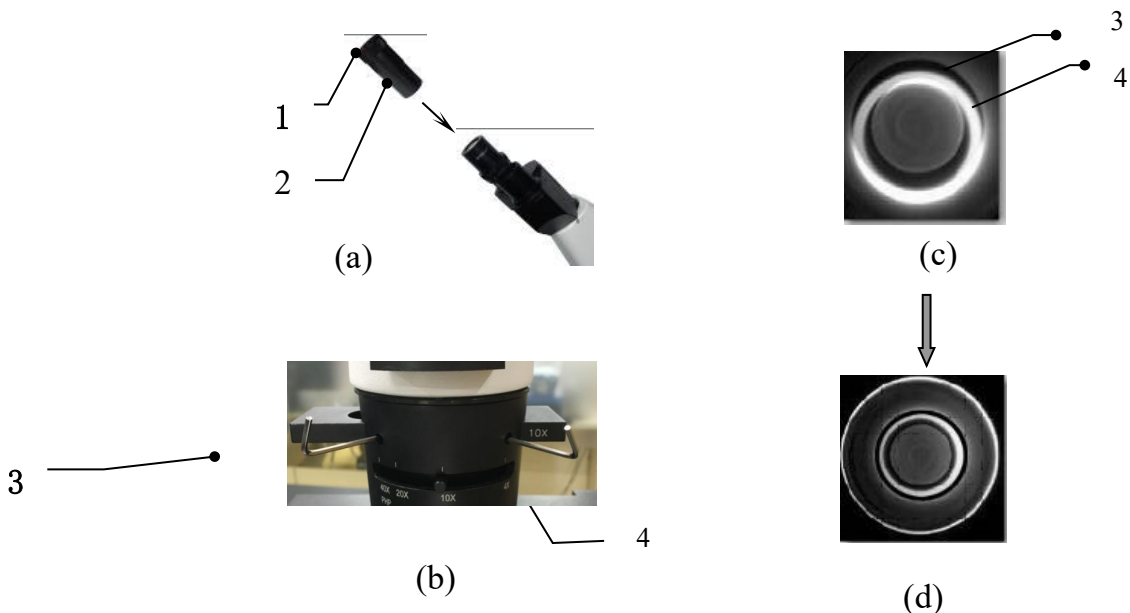

Figure 13
1) Take out one of the eyepiece, insert the eyepiece 2 into the lens as figure 13-a.
2) A dark ring 5 and a bright ring 6 would appear in the field as figure 13-c.
4) Adjust the plate as figure 13-c shows if the two rings not coincide with Allen wrench 3. Adjust screw 4 if it is a pull-plate one. See figure 13-d.